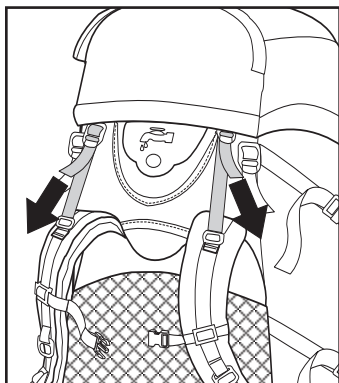

Figure 2H
D. Snug the load-lifter straps (Figure 2H) This lifts the shoulder straps (and the pack's weight) off the top of your shoulders. Don't allow the load-lifters to pull the shoulder straps more than 1/2" off your shoulder, or it will cause pressure points. If the pack feels better the more you pull the load lifter, the stays might need to be adjusted.